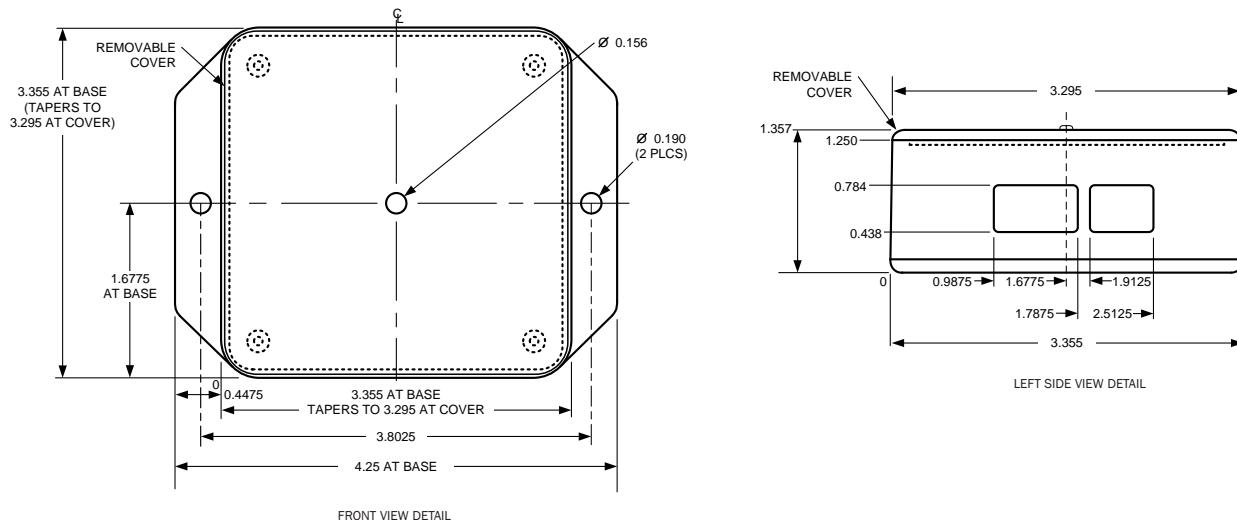

Figure 3. GA-100 Mechanical Detail Drawing
3. Remove the two wiring connectors from the GA-100 terminal blocks and mark the two mounting holes located on each of the enclosure side flanges as shown in Figure 3.